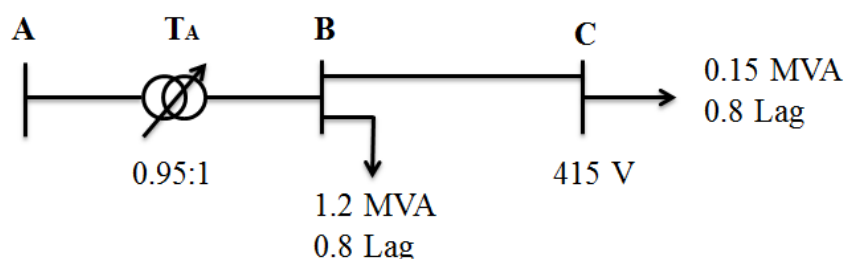

Figure 8.1
- 8.3 In the system shown in Figure 8.1, determine the supply voltage necessary at Bus A to maintain a line voltage of 415 V at the load terminals at Bus C. The system data are given in Table 8.1.